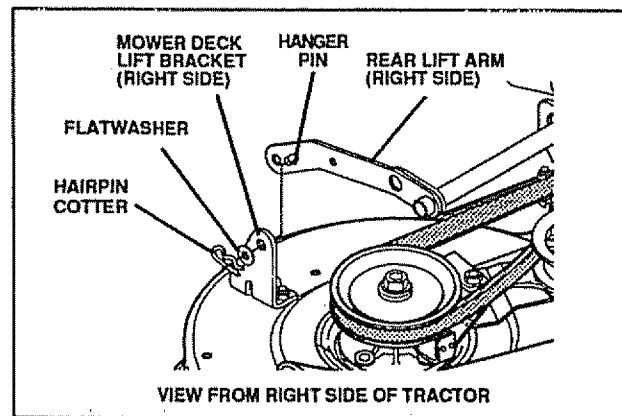

FIG. 19
- Remove hairpin cotter and flatwasher from hanger pin of right rear lift arm and slide off right mower deck lift bracket (see FIG. 19).
- Remove hairpin cotter and flatwasher from hanger pin of left rear lift arm and slide off left mower deck lift bracket (see FIG. 19).
- Place cutting height adjustment lever in lowest position. **NOTE:** Be sure left and right lift arms are to the inside of left and right deck lift brackets (see FIG. 19).
- Lift deck slightly and flex right rear hanger pin inward to snap hanger pin into right deck lift bracket slot. Secure hanger pin in place with flatwasher and hairpin cotter removed earlier (see FIG. 19).